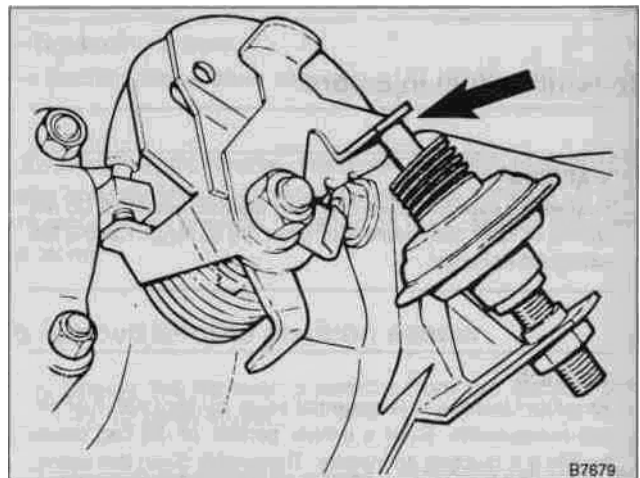

Fig. 30. Dashpot plunger should be backed off throttle lever (arrow)
1. Back off the dashpot so that the plunger no longer contacts the throttle lever. See Fig. 30. Check that there is slack in the accelerator cable. If necessary, loosen the cable.